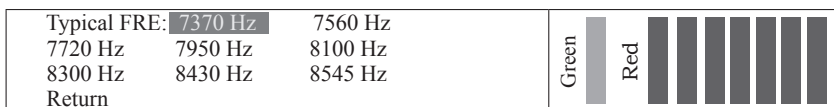

Fig. 15
(1) Typical frequency: see Fig. 15.